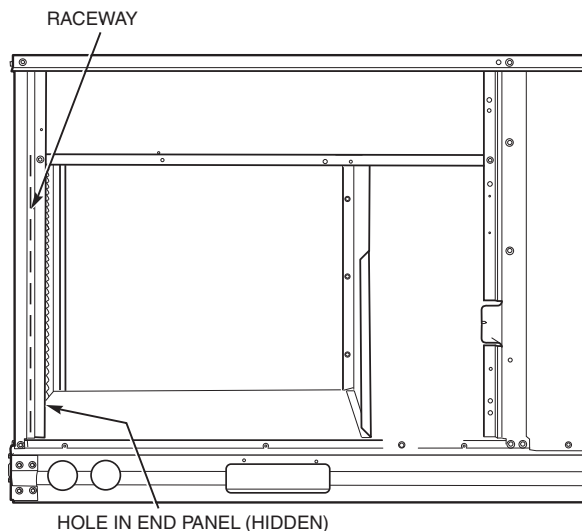

Fig. 45 — Field Control Raceway
Pass the thermostat control wires through the hole provided in the corner post; then feed the wires through the raceway built into the corner post to the control box. Pull the wires over to the terminal strip on the upper-left corner of the Controls Connection Board. See Fig. 45.
2. Feed wires through the raceway built into the corner post (see Fig. 45) to the 24-v barrier located on the left side of the control box. The raceway provides the UL-required clearance between high-voltage and low-voltage wiring.